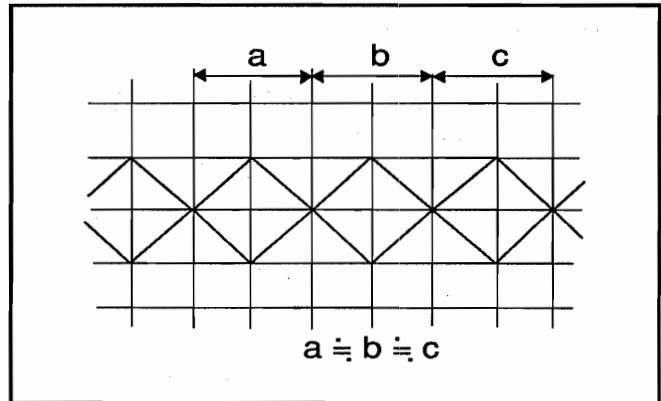

Fig. 1-10
- 5) Set the unit in review mode and be sure that the noise pitch of the RF waveform is even. (Fig. 1-10) If not, proceed to "Noise Pitch Adjustment."